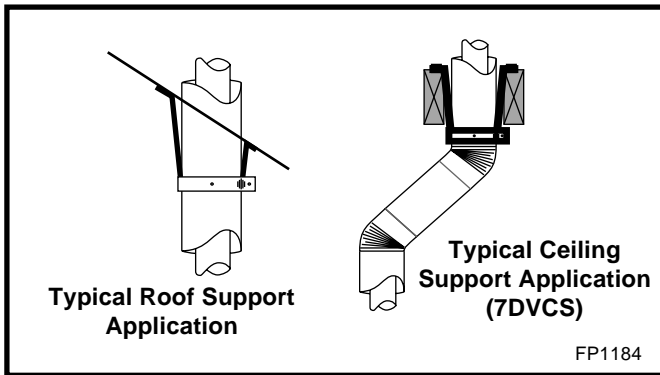
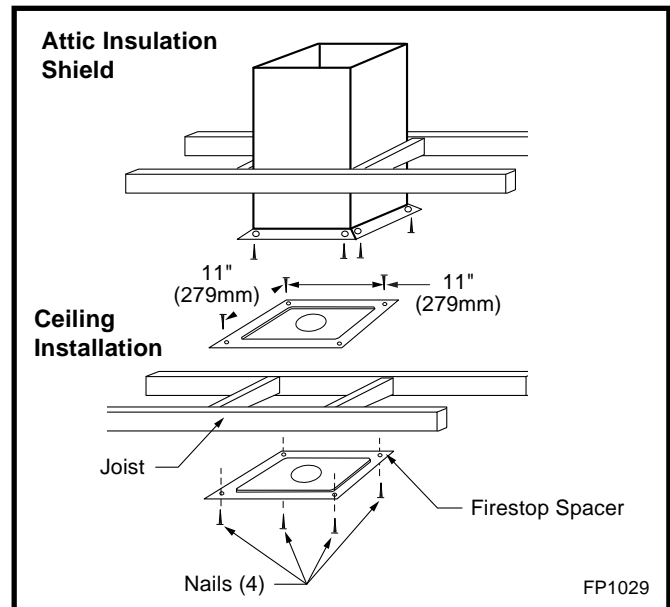

Fig. 25 Venting supports.
Fig. 27 Place firestop spacer(s) and secure.
- 7DVCS must be used to support offsets. (Fig. 25) This application will require that you first determine the roof pitch and use the appropriate starter kit. (See Venting Components List)
6. Place firestop(s) #7DVFS or Attic Insulation Shield #7DVAIS into position and secure. (Fig. 27)
7. Install roof support (Fig. 25) and roof flashing making sure upper flange of flashing is below the shingles. (Fig. 27)
8. Install appropriate pipe sections until above the flashing. (Fig. 27)
If there is a room above ceiling level, firestop spacer must be installed on both the bottom and the top side of the ceiling joists. If an attic is above ceiling level a 7DVAIS (Attic Insulation Shield) must be installed. (Fig. 27)